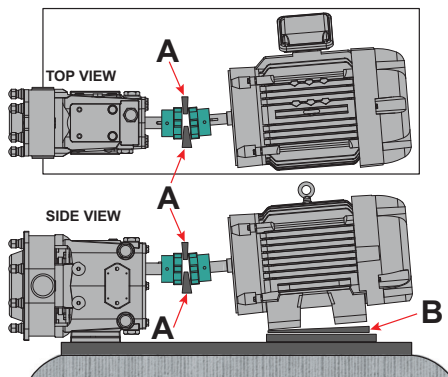

Figure 23 - Check Angular Alignment
1. Using feeler gauges or taper gauges (Figure 23, items A and B), check the alignment at four points every 90 degrees around the coupling; **adjust to equal dimension at all points.**